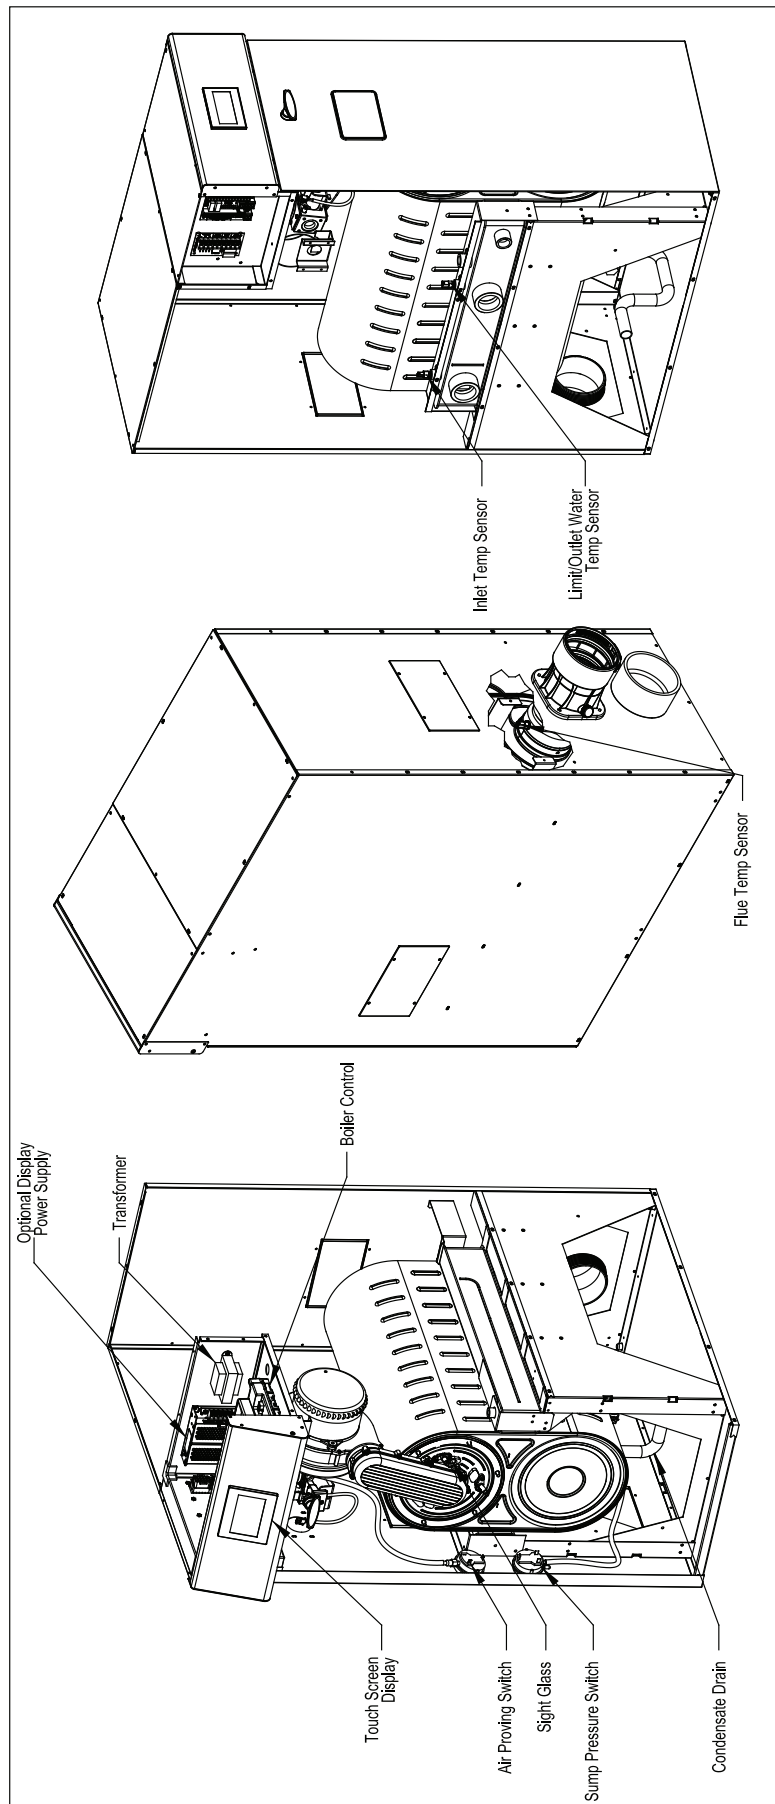

Figure 1: Control and Sensor Locations
2. **Instructions to safely operate** and shut down this boiler are shown in Figure 2 on page 5, as well as on a label affixed to the boiler. Control locations shown in Figure 1.